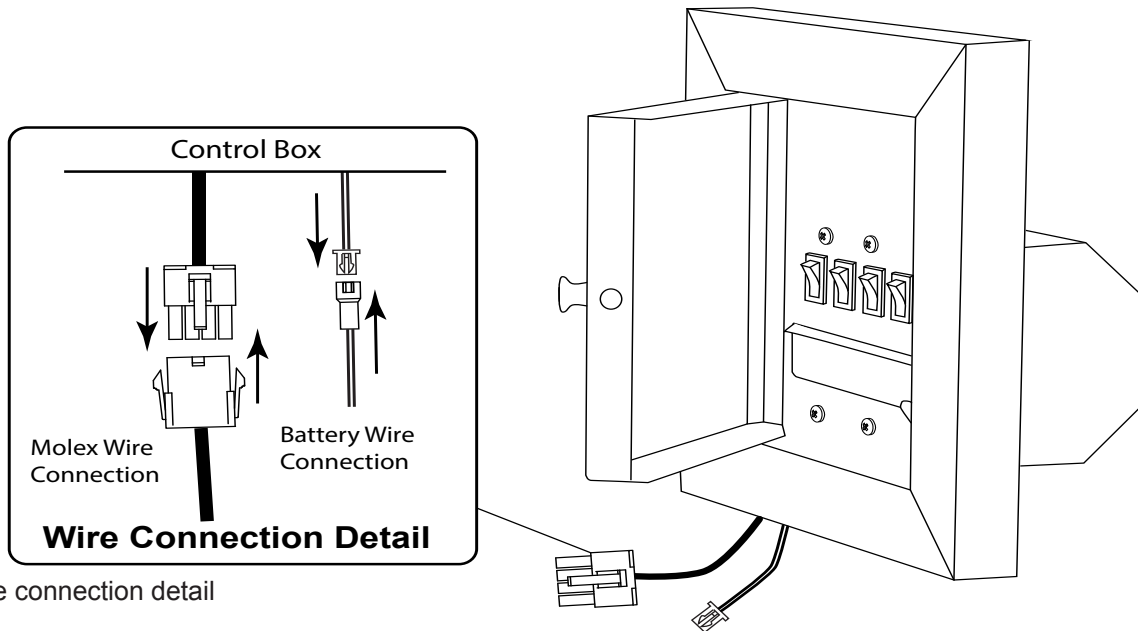

Fig. 16 Wire connection detail
Step 7: Feed the wire harness (# 77161) up to the control box and attach the Molex connectors from the module wire harness to the control box wire harness. At the same time, connect the 2-PIN connector (#VCS-ECOBUEXT32) from module wire harness to the 2-PIN connector inside the control box. See Fig. 16. Refer to page 16 Fig. 13.